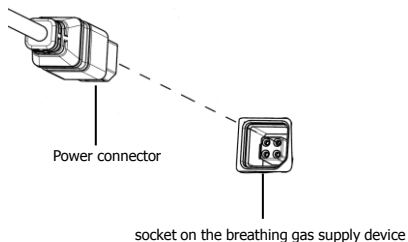

Fig. 6-1
- (1) Unpack and take out the product.
- (2) Connect the machine end port of Heated Breathing Tube and breathing gas supply device.
- (3) Connect the power connector of Heated Breathing Tube and the socket of breathing gas supply device as shown in Fig. 6-1.